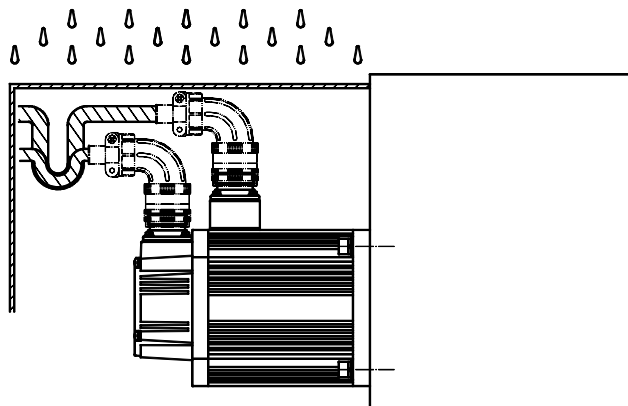

Fig. 9
9.4 Because of the motor structure, when the connector should be put upside, the protection measure should be taken, which is shown as figure 9.